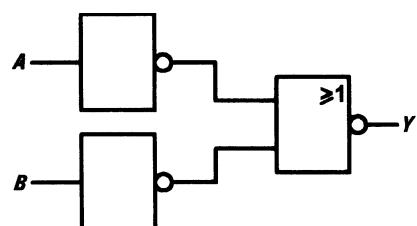

Figure A2.25
49. What single logic gate can be used to replace the logic circuit shown in Fig. A2.25? [Page 165]